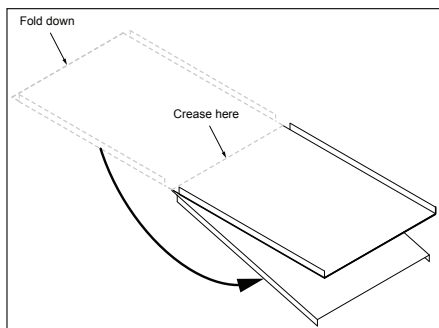

Figure 5. Fold and crease Release Sheet in half
2. Fold and crease Release Sheet in half at center point as shown in Figure 5.